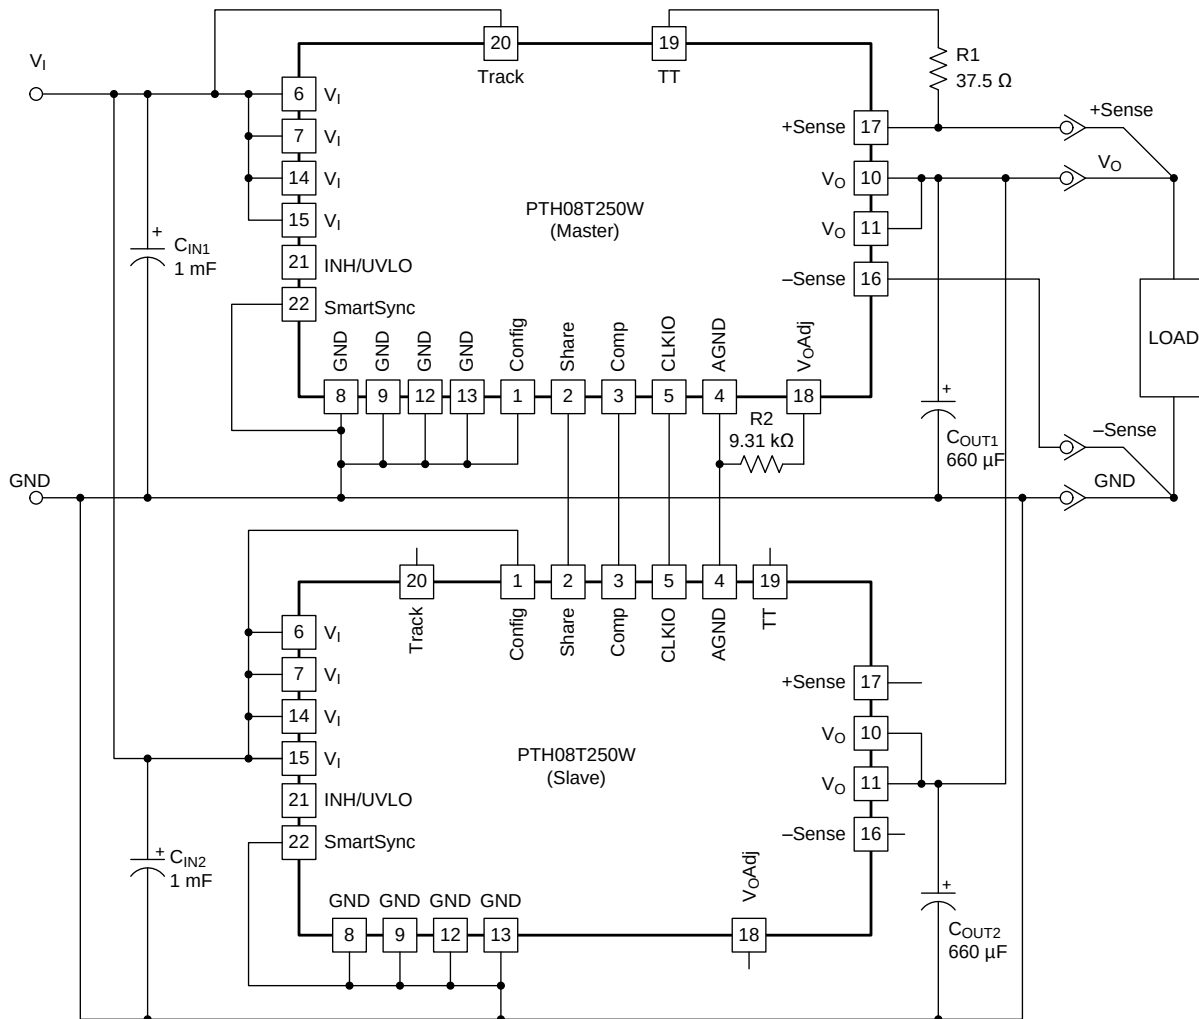

Figure 10. 100-A Current Source Design Schematic
A stand-alone, dual-phase power module like the Texas Instruments (TI) PTH08T250W can supply up to 50 A of output load current. However, the PTH08T250W incorporates a stackable controller feature that allows the outputs of multiple modules to be connected in parallel, thereby producing a reliable solution capable of supplying a load current of 100 A or more. Configuring a PTH08T250W as a master and each additional module as a slave allows start-up and transient conditions to be controlled by a single module. Figure 10 shows a typical two-module solution where all of the features and inputs are controlled by the master device while the slave inputs are left open.